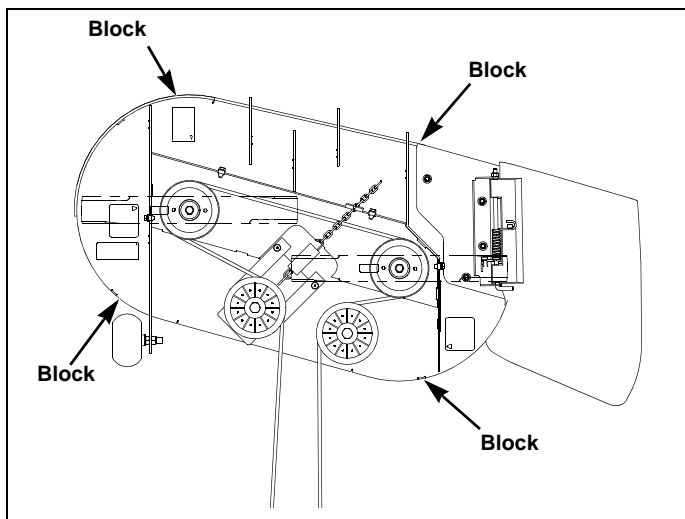
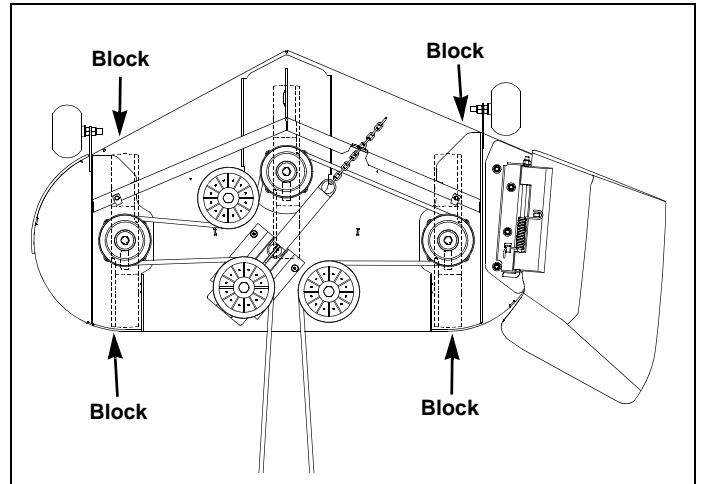
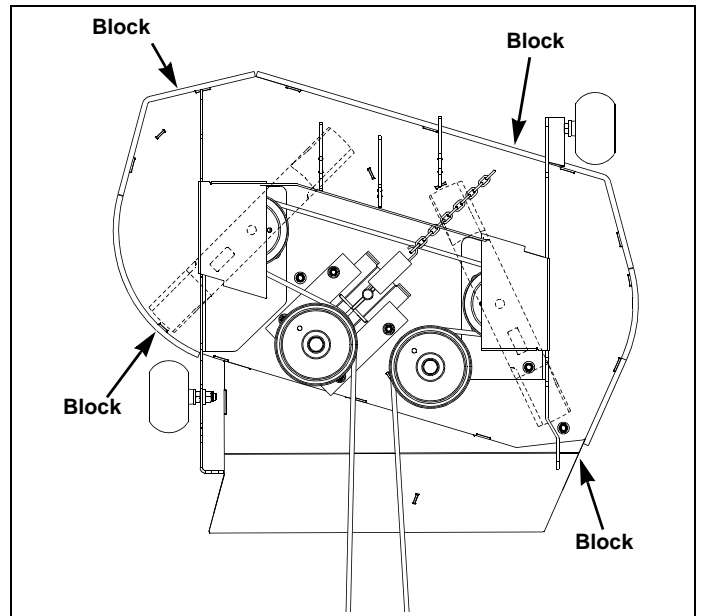

Figure 6-1
Figure 6-2
Figure 6-3
4. Place 3" (76.2mm) high deck support blocks (two stacked 2" x 4" blocks can be used to create a 3" [76.2mm] high support) at the four corners of the deck as indicated. Figure 6-1, Figure 6-2, & Figure 6-3